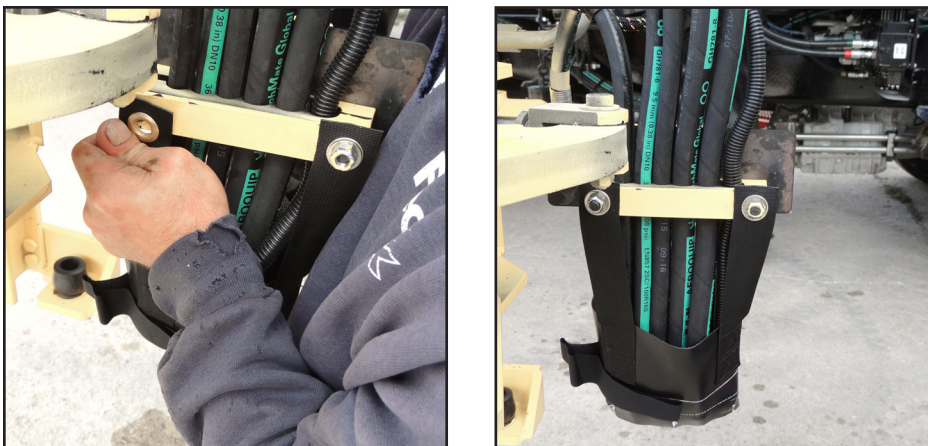

Figure 18
34. Pull the hose sleeve tails up to the hose clamps and, using 9/16" socket wrench, reinstall the existing washers and nuts (Figure 18). Use a torque wrench to torque to 28 ft-lbs.